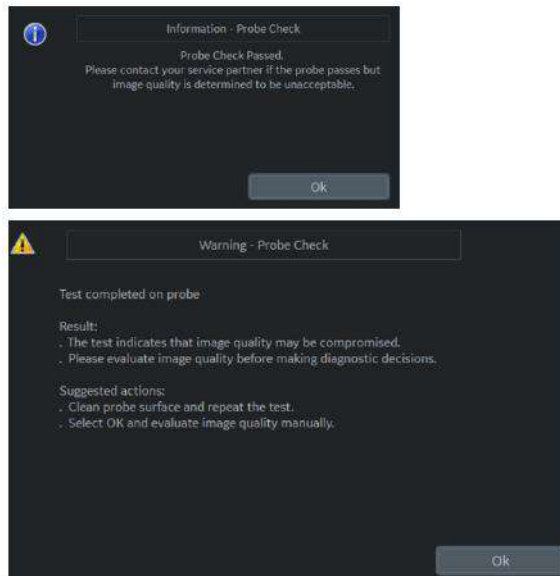

Figure 11-19. Probe Check Pass or Fail Pop-ups
3. When the probe check is complete, a pop-up displays specifying if the probe “Passed” or “Failed” the test (see Figure 11-19). If the probe passed the test, continue using the probe. If the probe failed the test, follow the instructions on the pop-up.
Automatic Probe Check runs for all supported probes with NOTE. Automatic Probe Check increases the probe selection time by about five seconds. If the probe fails the probe check, a pop-up displays (see Figure 11-19). If the probe fails the check, follow the instructions on the pop-up.